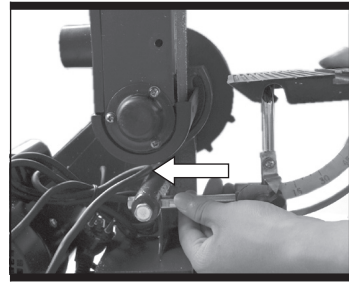

Fig 11-1
- 1) Insert the worktable support bar into the hole. (Fig 11-1)